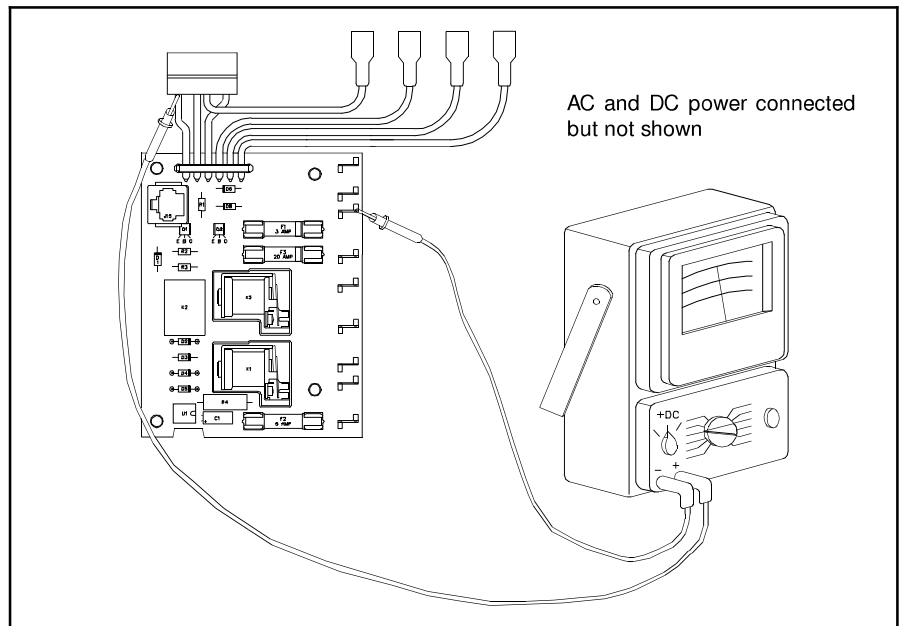

Figure 11.43 12 Volt Input Check to Ignition Module
18. Check for 12 volts DC between the negative power supply terminal (J3) and the left most connection to the Ignition Module as shown in Figure 11.43. If you do not have 12 volts (9.5-15 volts), replace the Power Supply.